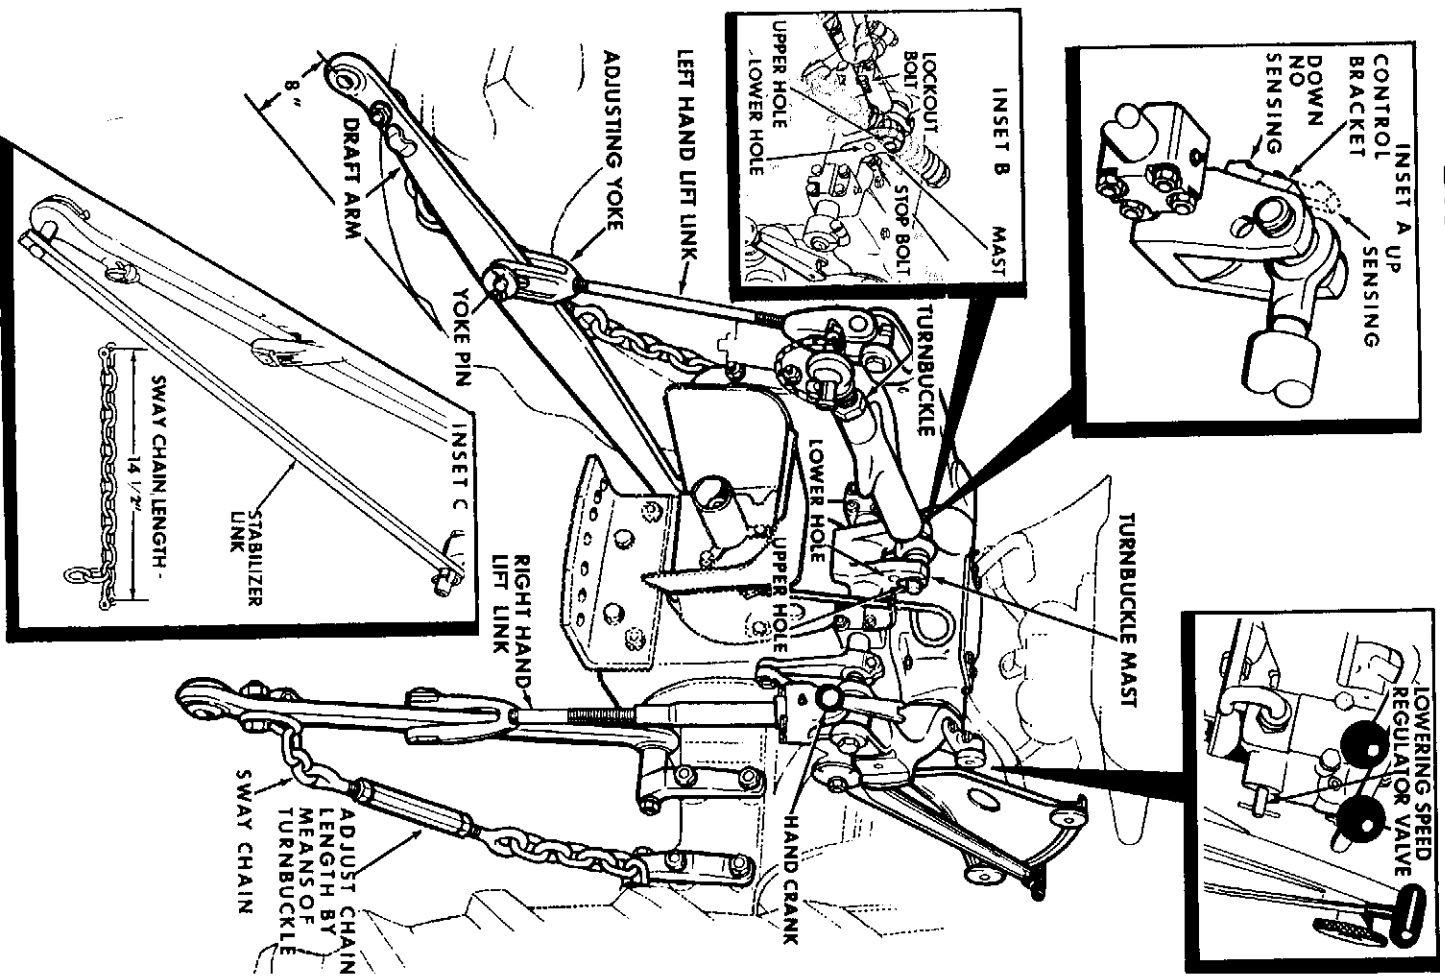

Figure 41
1. Move the automatic sensing control bracket down against the transmission case or the rockshaft housing to the lock out position, Figure 41. Inset A.